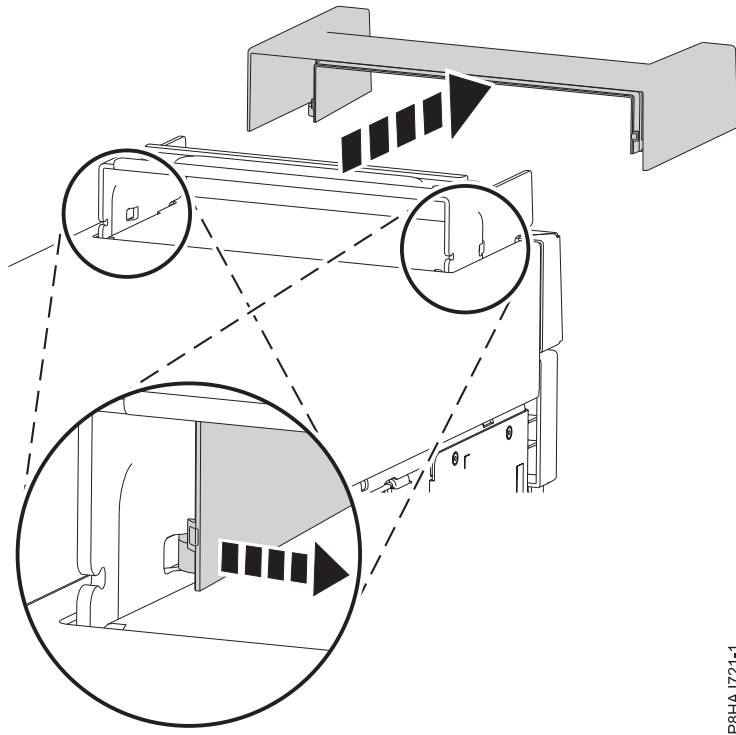

Figure 9. Removing the handle cover from an 8286-41A stand-alone system
3. Remove the handle cover by sliding it toward the front of the system then lifting upwards. See Figure 9 on page 29.